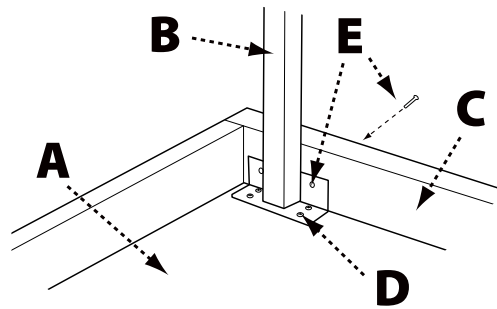
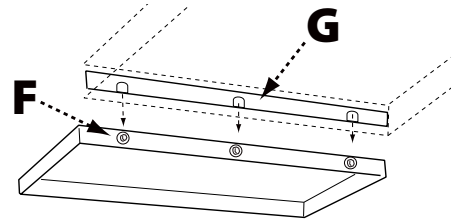
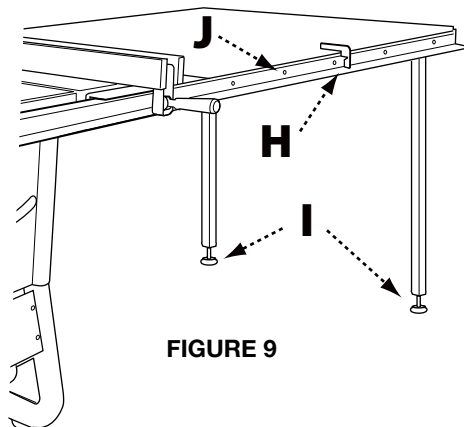

FIGURE 7
FIGURE 8
FIGURE 9
1. Lay the wood table (A) upside down on floor or bench.
2. Position legs (B) in corner as shown (fig 7) the vertical wall of the angle plate on the leg should be against the end wood wall (C) of the table.
3. Fasten the legs to the table board with (8) #8 x 5/8" self-tapping screws (D).
4. Carefully drill through the holes in the vertical angle plate holes and the wood wall of the table with a 1/4 inch drill. Feed the #10 by 1 3/4" screws (E) through the drilled holes from the outside, then assemble the #10 washers and nuts onto the screws and tighten.
5. Loosely assemble (3) 5/16-18 x 7/8 inch screws, washers and nuts (F) into the three holes in the side of the extension wing as shown. (fig 8)
6. Carefully lower the slotted steel angle table bracket (G) down onto the screws on the extension wing. Tighten the screws after the wood table is leveled with the extension wing.
7. Using the rail alignment gauge (H) adjust the feet in the legs (I) so the top of the table is at the proper distance from the rail.
8. Drill 1/4 inch holes through the rail holes (J) into the wood table on the front and back rails. (fig 9)